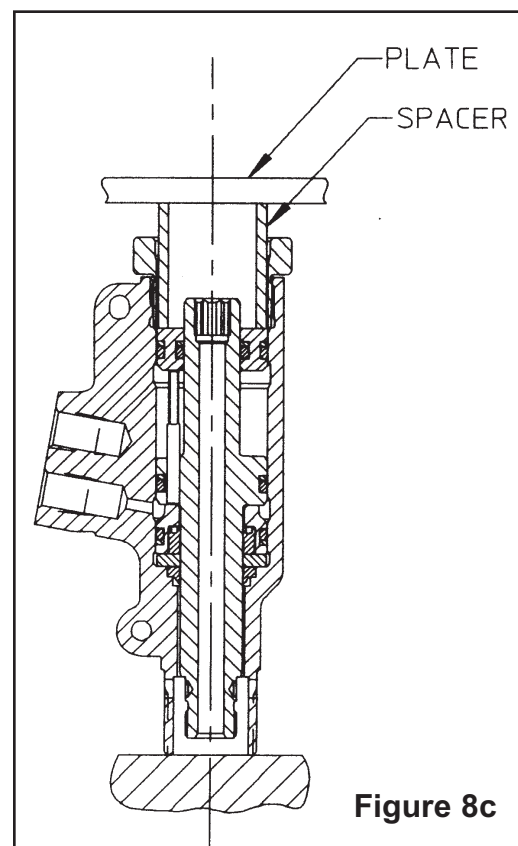

Figure 8c
5. See *FIGURE 8c* - - lightly coat cylinder and rear gland O-rings with lubricant. As shown, hold cylinder upright on a bench or in a vice fitted with soft jaws. Install rear gland assembly using suitable spacer, plate, and soft mallet.